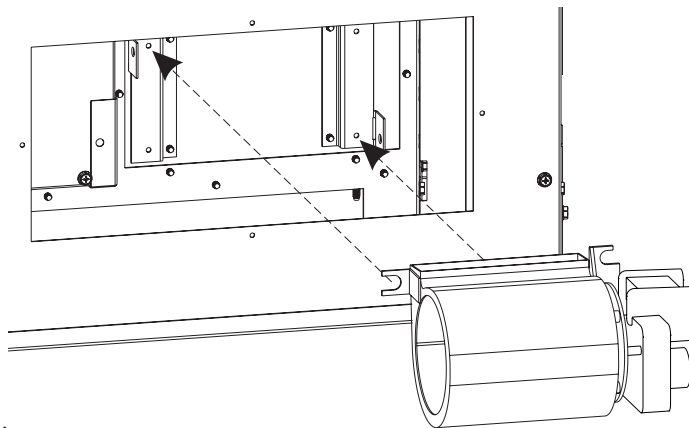

Figure 13
5. Place Blower onto Blower Brackets. See Figure 13.